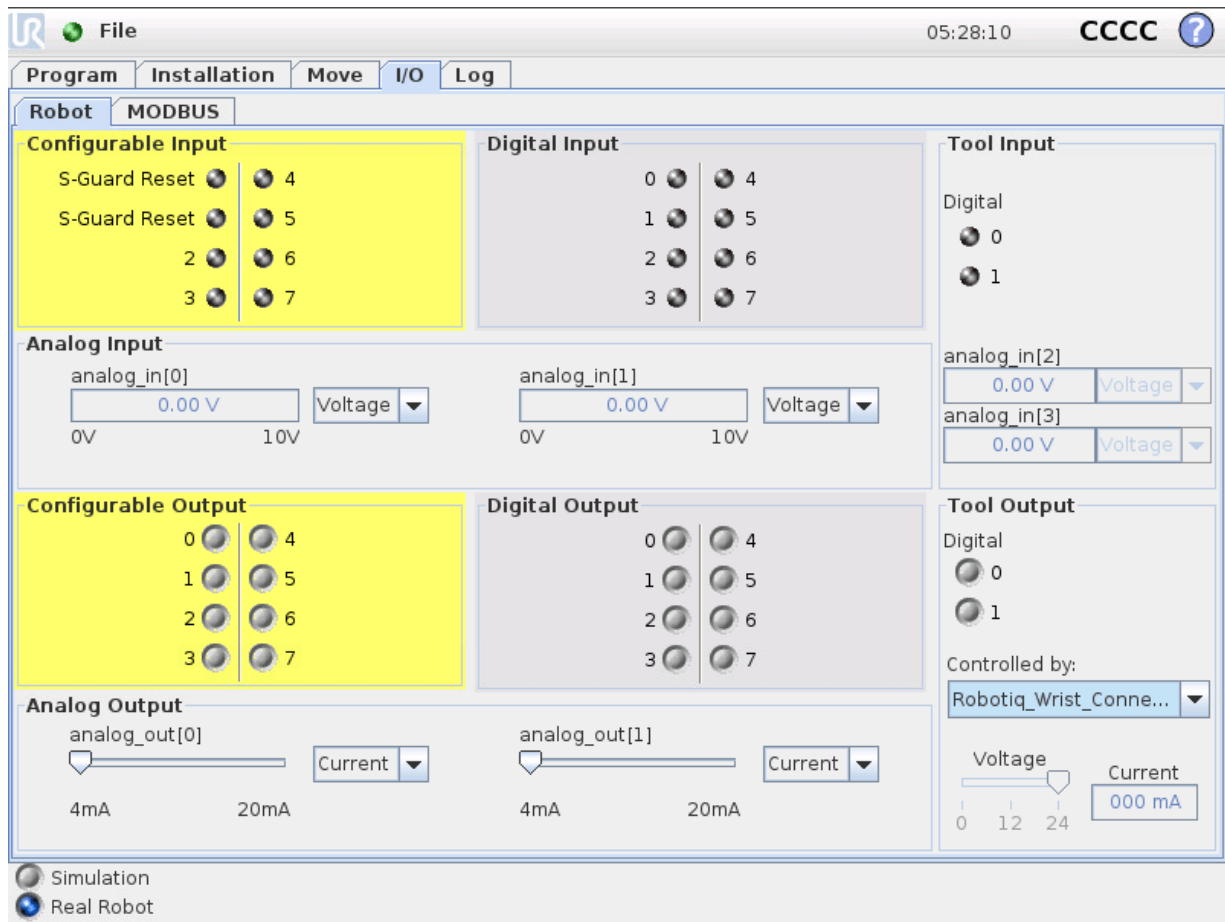

Fig. 3-9: Changing the Voltage at the Tool Flange
5. In the **I/O** Tab, go in the **Tool Output** section. In the **Controlled by** dropdown menu, select **Robotiq_Wrist_Connection**. The voltage will automatically change to 24 V, as shown in Fig. 3-9.
7. Delete any Gripper URCaps on the robot. Install the URCaps on the UR robot. When the gripper will be connected to robot, the gripper firmware can be updated if needed. In the **I/O** tab, go in the **Tool Output** section. In the **Controlled by** dropdown menu, select the **Robotiq_Wrist_Connection**. The voltage will automatically change to 24 V, as shown in Fig. 3-9.